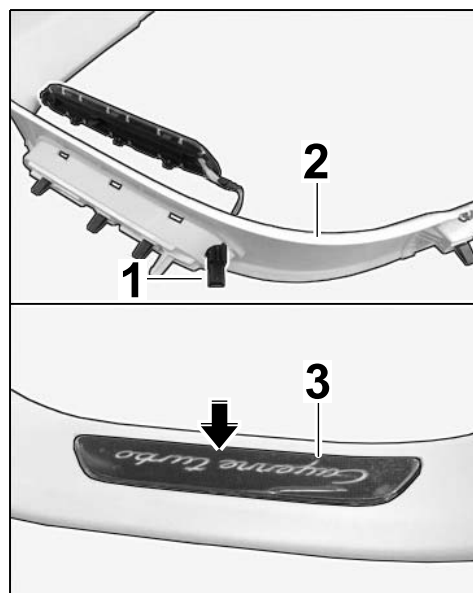

Figure 12
- 2.3.1 Guide connector and line (flat conductor path) ⇒ *Figure 12 -1-* through the bore hole.
- 2.3.2 Clip illuminated door entry guard ⇒ *Figure 12 -3-* into the inner door sill trim ⇒ *Figure 12 -2-*.